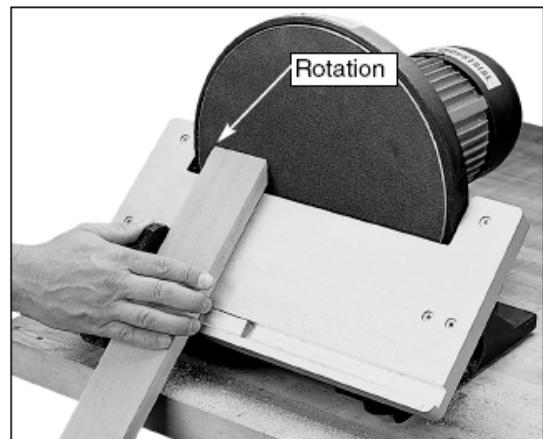

Figure 10. Mitering with table angled.
4. With light, but firm pressure, push the workpiece slowly into the downspin side of the rotating disc (**Figure 10**).